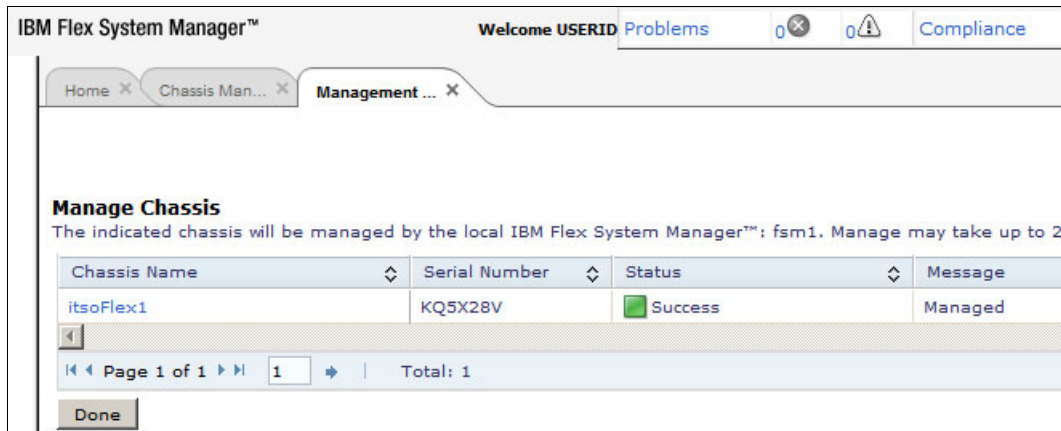

Figure 6-27 FSM manage chassis steps completed
5. After the successful completion of the manage chassis process, click **Done** as shown in Figure 6-27.